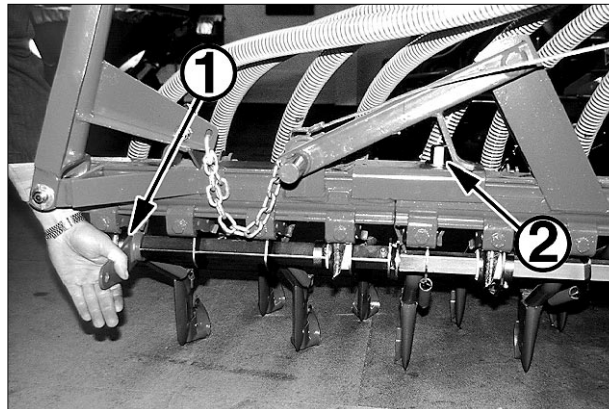

Fig. 4-17
- lift the lever underneath the coulter bar until the coupling of the two square-section shafts engages (see fig. 4-17).